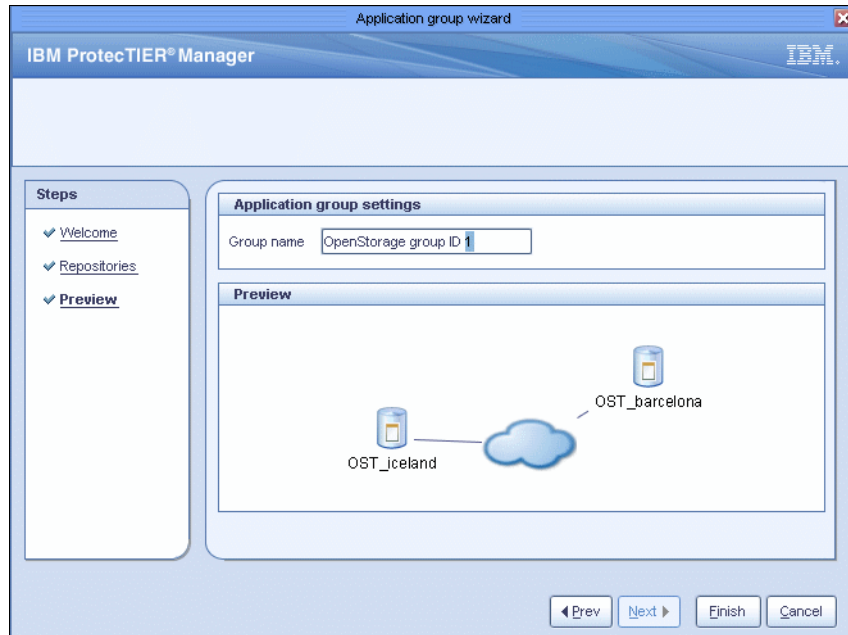

Figure 9-37 Application group wizard: Group settings and preview
4. The Application group settings and Preview window opens and shows the connected repositories. Enter a name for the application group in the Group name field and click **Finish**. The connections are shown in the Preview pane and the Group name is saved (Figure 9-37).